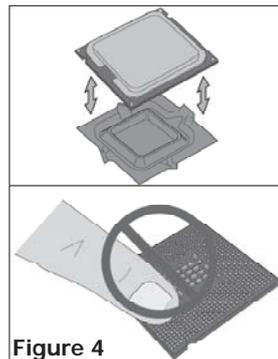

Figure 4
4. Remove the processor from its protective cover. You may hold only the edges of the processor, and be reminded not to touch the bottom part of it (Figure 4). Again, please keep this protective cover and put your processor back to it whenever it is removed from the motherboard.